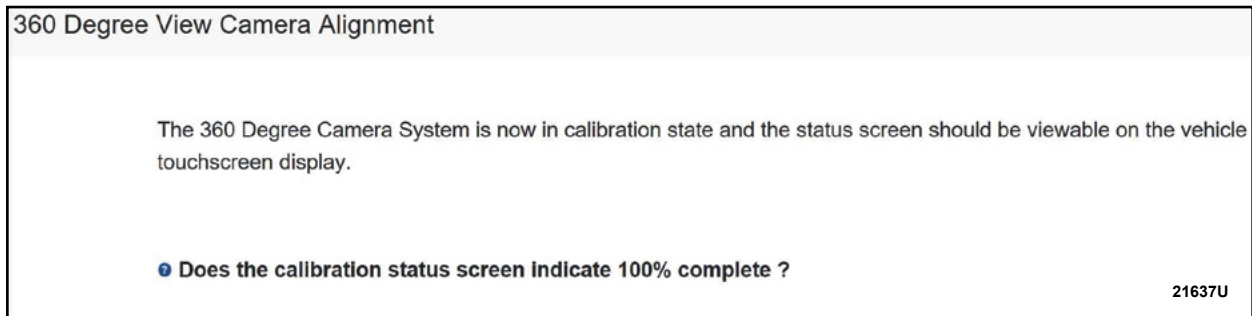

FIGURE 22
d. When prompted with the screen shown below, See Figure 22, drive the vehicle on a road or parking lot to complete the calibration. To activate the calibration status screen proceed to Sub-Step e.